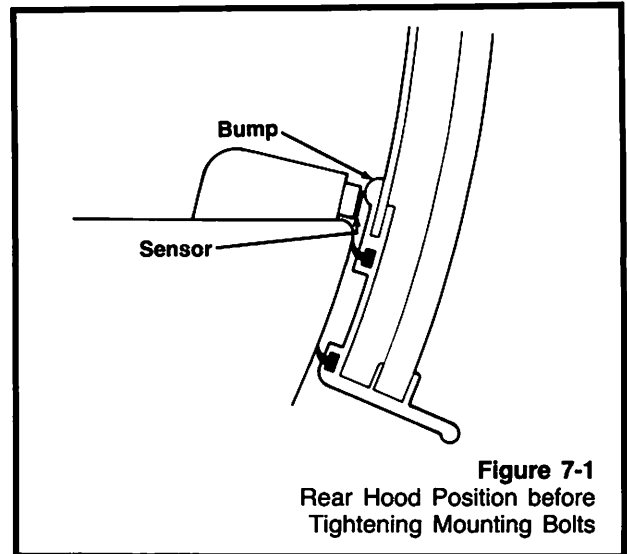

Figure 7-1
5. While maintaining the same relative position between front and rear hood sections, rotate both hood sections until the top of the black sensor button aligns with the center of the rear retainer bump (Figure 7-1).